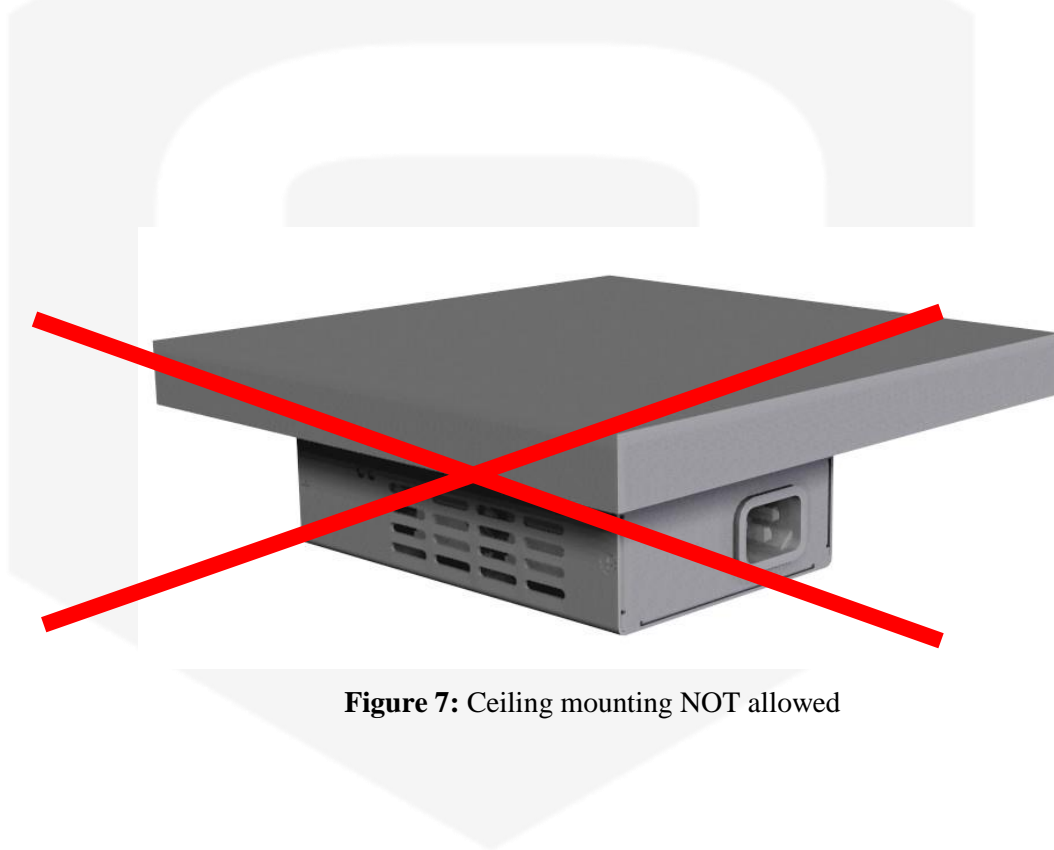

Figure 7: Ceiling mounting NOT allowed
- bottom side of the box fixed to the ceiling (**Figure 7**);